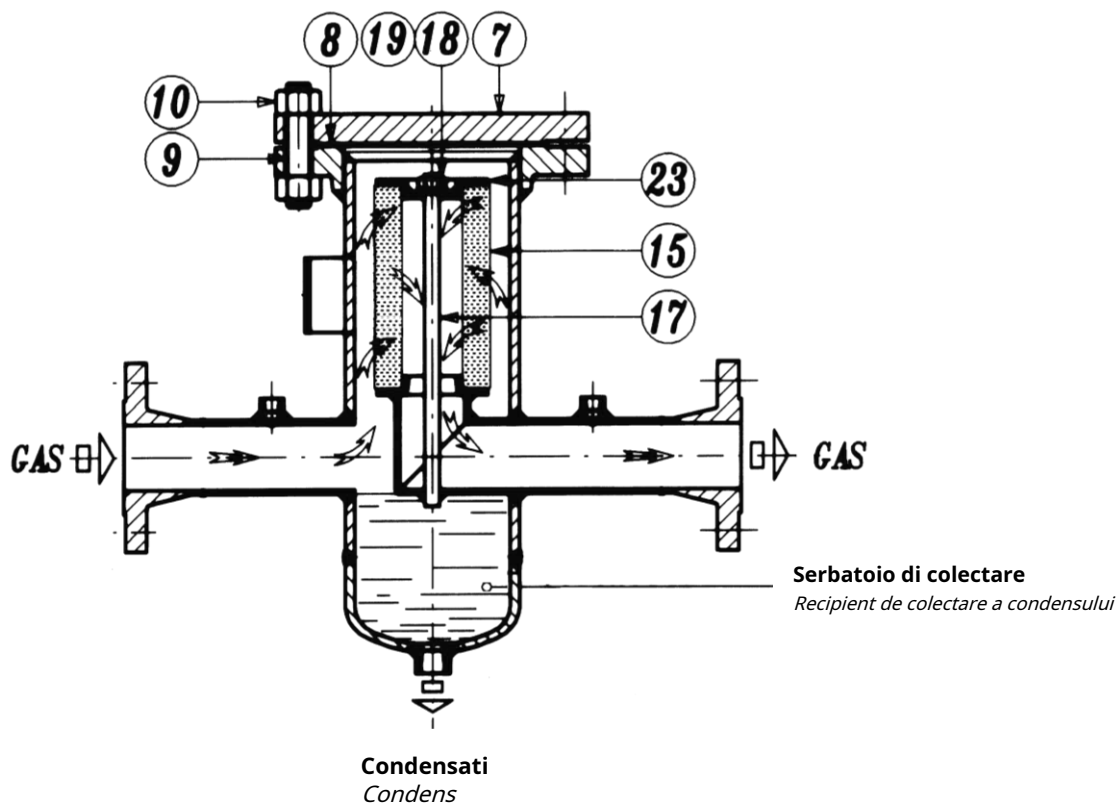

Fig. 2
1.3 ÎNCHIDEREA CAPULUI CU FLANȘĂ (FIG. 2)